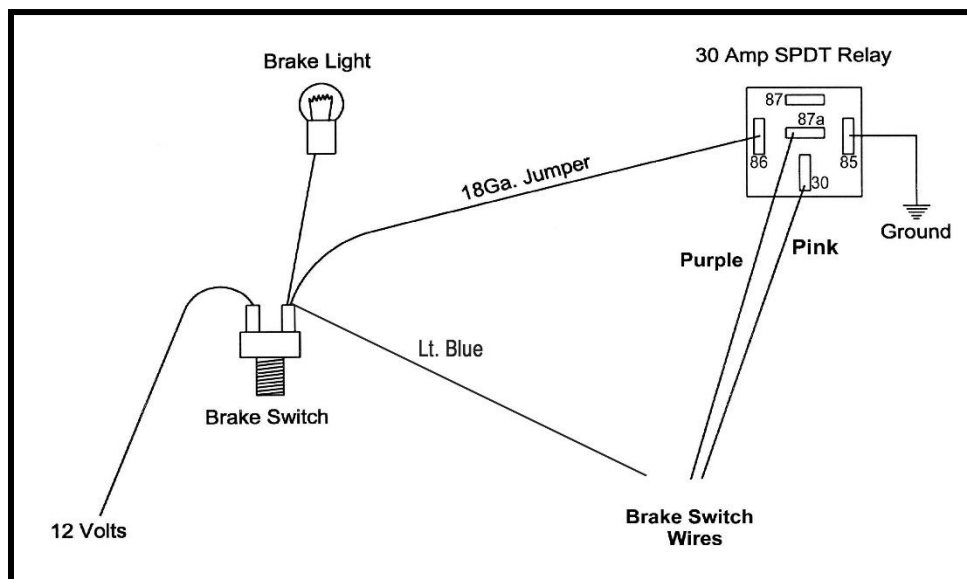

FIGURE 7 Brake Switch Relay
- If your vehicle has a pressure type brake switch, you may use a relay as shown in **Figure 7**. The relay must be a **SPDT Relay** and wired correctly or it could result in a dangerous situation with the vehicle. The torque converter may not unlock.